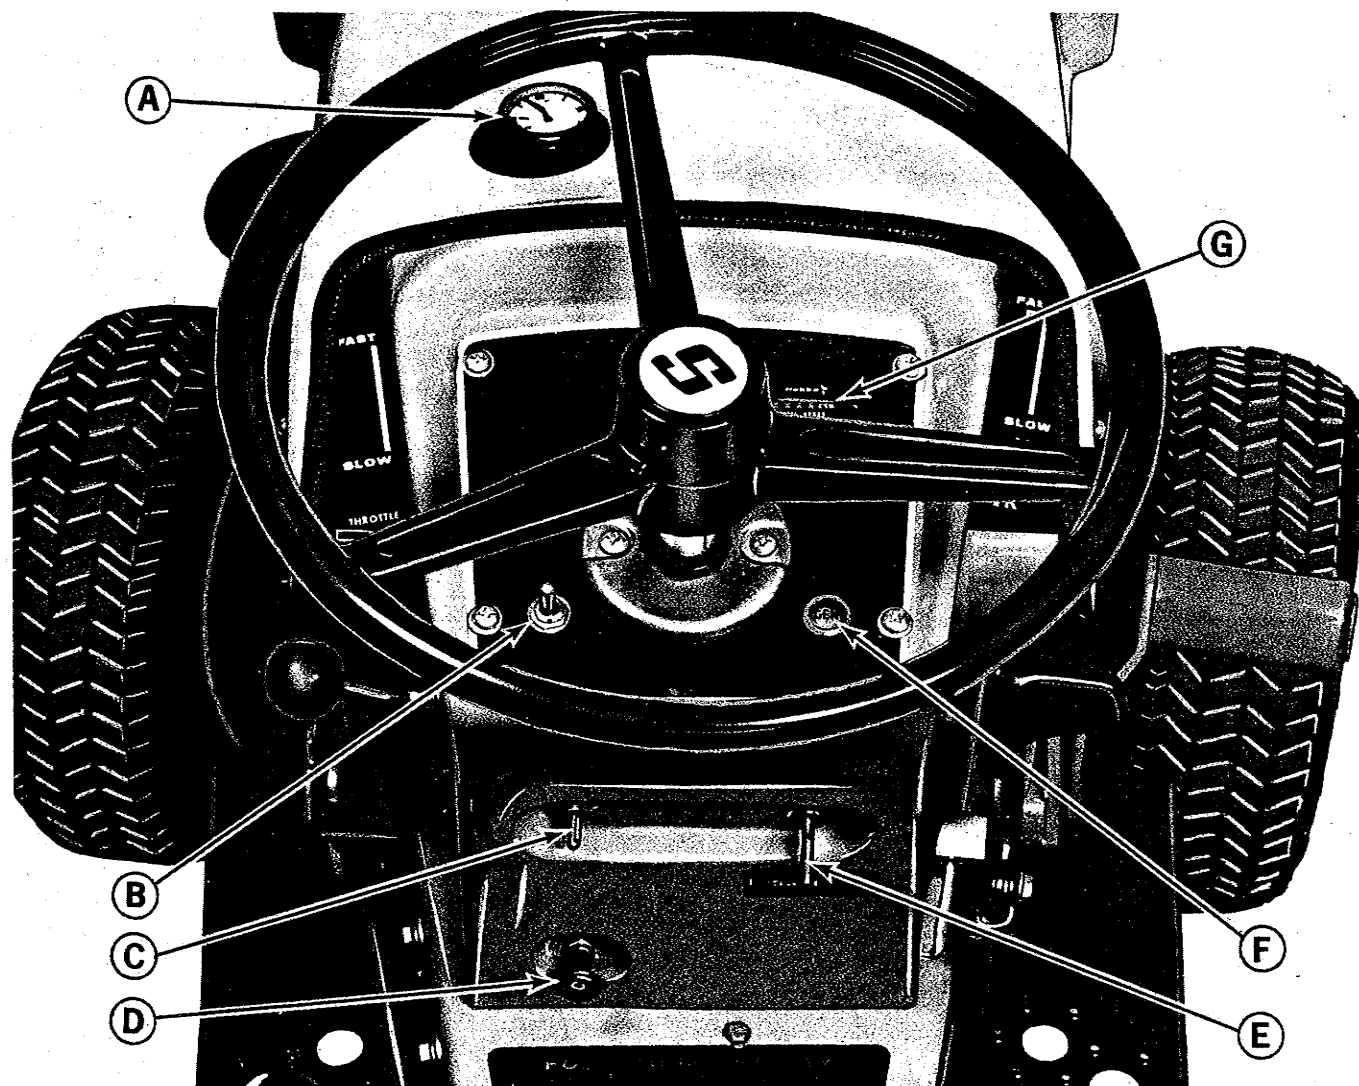

Figure 1. Tractor instrument panel as seen from the operators position on tractor seat.
Picture yourself seated on your Simplicity tractor. Before starting the engine, let's learn how to understand and use the instruments and controls. The paragraphs referring to the instruments and controls are illustrated on figures 1 through 5.
**IGNITION SWITCH:** (Figure 1, item E) To actuate the ignition switch first insert the ignition key as shown. When the key is turned clockwise to the first position, the ignition is ON. In the ON position the lights, hourmeter, etc. will operate. Turn the key clockwise past the ON position to the START position to actuate the starter. **THE HYDROSTATIC TRANSMISSION CONTROL LEVER MUST BE IN THE NEUTRAL POSITION AND THE POWER TAKE OFF CLUTCH CONTROL LEVER MUST BE IN THE DISENGAGED POSITION BEFORE THE STARTER WILL ACTUATE.** Release the key as soon as the engine starts. Return
**CHOKE CONTROL KNOB:** (Figure 1, item D) The choke control knob may be pulled out to increase the amount of fuel entering the engine for starting and cold weather warmup. When starting a cold engine in cold weather pull the choke all the way out. Some choke may be required to start the engine when the air temperature is above 70 degrees F or while the engine is still warm from being recently run. After the engine has started, push the choke in slowly. In cold weather it may be necessary to leave the choke pulled out slightly for three or four minutes while the engine warms up. **NEVER OPERATE THE ENGINE WITH THE CHOKE OUT AFTER IT HAS HAD SUFFICIENT TIME TO WARM UP - ABOUT 5 MINUTES SHOULD BE SUFFICIENT EVEN IN COLD WEATHER.**
**GENERATOR WARNING LIGHT: (Figure 1, item F)**
**HOURLMETER: (OPTIONAL) - (Figure 1, item G)**
**FUEL GAUGE AND FILLER CAP: (Figure 1, item A)**
**LIGHT SWITCH: (OPTIONAL) (Figure 1, item C)**
**POWER LIFT SWITCH: (OPTIONAL) (Figure 1, item B)**